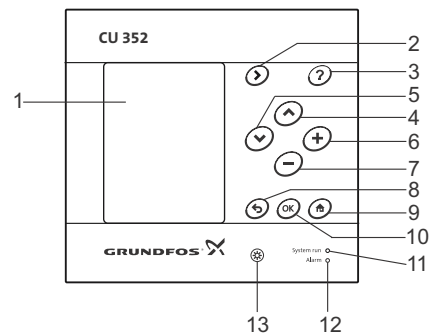

Fig. 4 Control panel
The buttons (pos. 2 to 10 in fig. 4) on the CU 352 are active when they are lit.
7.2.1 Arrow to the right (pos. 2)